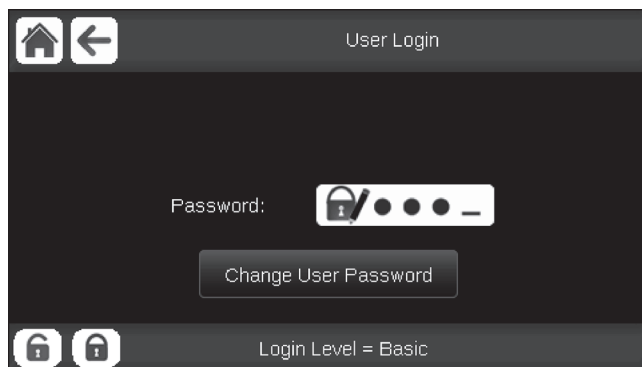

Fig. 5 — User Login Screen
- **User** — The User access level authorizes access to modify the Setpoint Configuration and some Configuration Menu parameters, as well as access to all menus accessible with the Basic mode. See menu structure on page 17. The default password for User level access is 11. To change the User access password, the user must first be logged in to User or higher level and go to **Login Menu** → **User Login** → **Change User Password**, then enter the old password and the new password. Confirm the new password, then press the Save button. After pressing the Save button, a pop-up window will indicate that the user password was changed successfully. Press OK to continue. (See Fig. 5.)